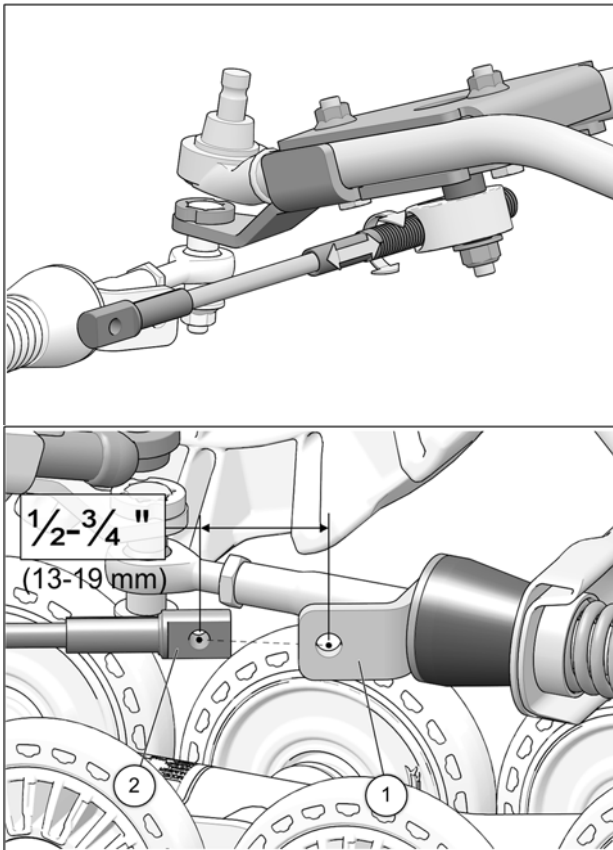

Fig. 17
13. Turn the vehicle's steering wheel to its maximum point of travel on the left. While maintaining pressure on the steering wheel, turn threaded rod to adjust length of cable so that the cable end hole (1) is located 13 to 19 mm [$\frac{1}{2}$ to $\frac{3}{4}$ in.] short of the mounting hole on the support plate (2). See Fig. 17